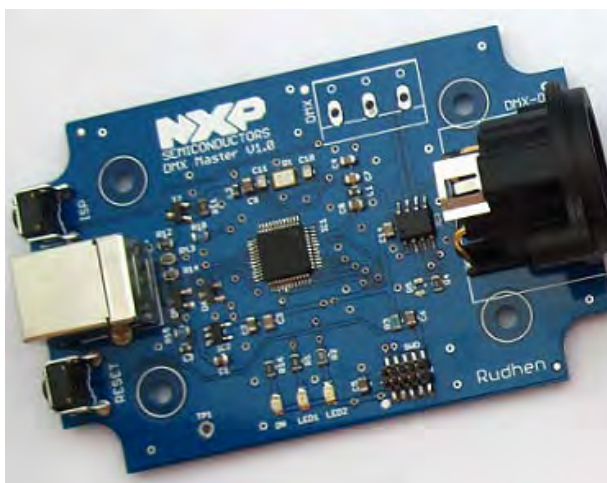

Fig 1. NXP DMX512/RDM master demo board
8. Second NXP DMX512 Master to be used as DMX512 monitoring device (see Fig 1)